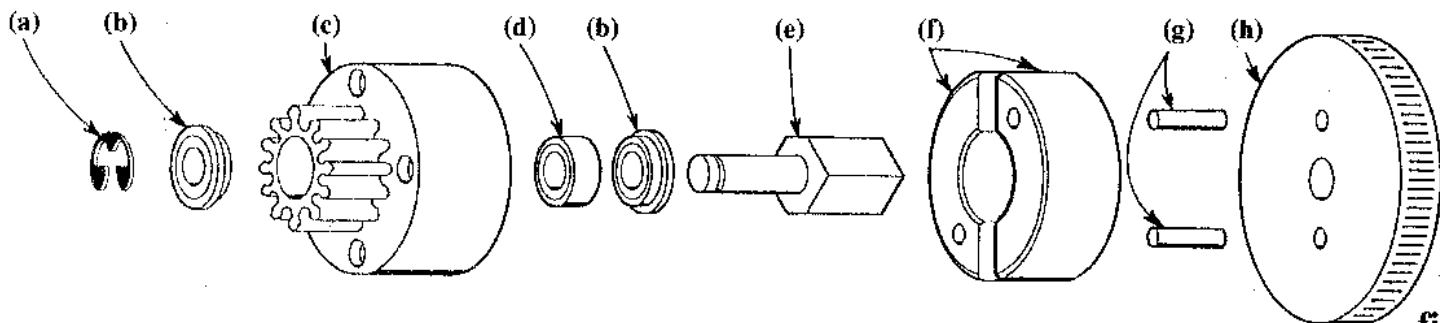

fig. 1
STEP 4 Slip the two clutch shoes (f) onto the pins in the direction shown (fig. 1, fig. 2.) Insert the ball bearing without a flange (d) into the back of the clutch bell (c), then push the two flanged bearings (b) into either side (fig. 1).